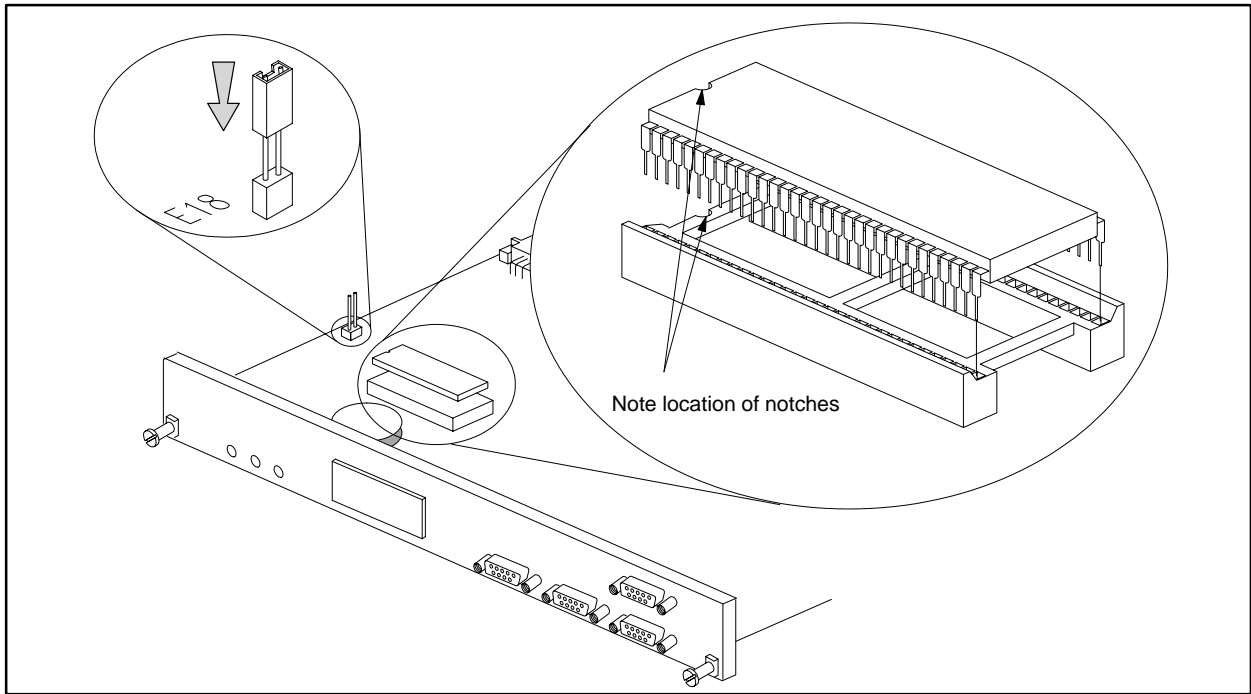
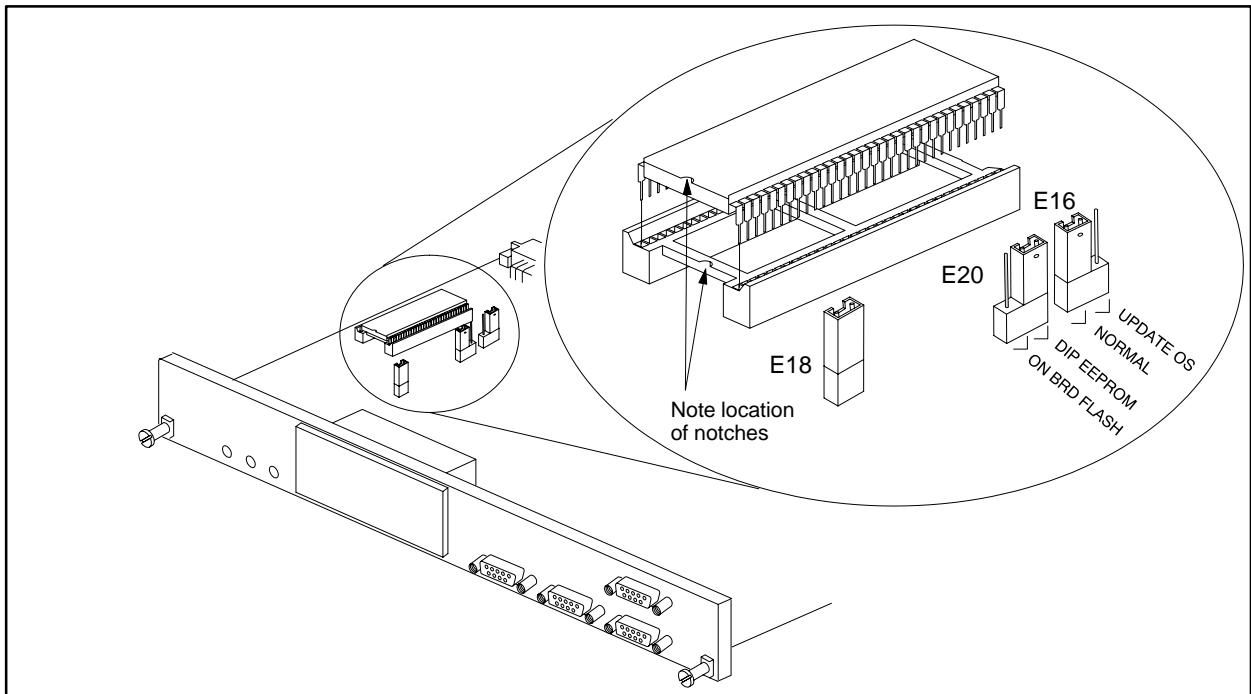

Figure 7-1 (E)EPROM Socket and Jumper Pins for -1103/-1104 CPUs
Figure 7-2 (E)EPROM Socket and Jumper Pins for -1105/-1106 CPUs
5. Insert the (E)EPROM into the socket on the CPU, aligning the notches on the (E)EPROM and the socket (see Figure 7-1 or Figure 7-2, depending on your CPU model).
For the new CPU models (-1105, -1106), set the jumper on header E20 to strap the pins marked "DIP EEPROM" as shown in Figure 7-2.